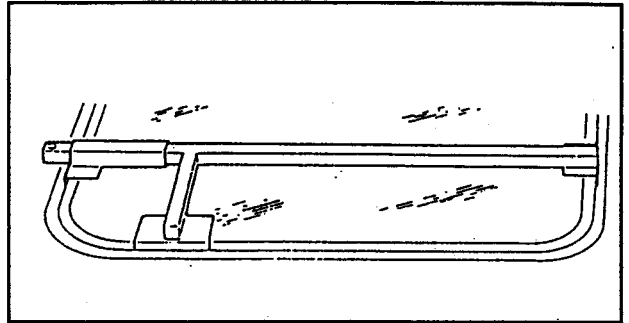

Fig. 19 - Glass Adjusting Tool.
6. Place glass adjustment tools left and right in position. To simplify the adjustment of the glass panel and secure a good fit between roof edge and glass seal, the glass adjustment tools have to be used during the final installation of the panel (Fig. 19).